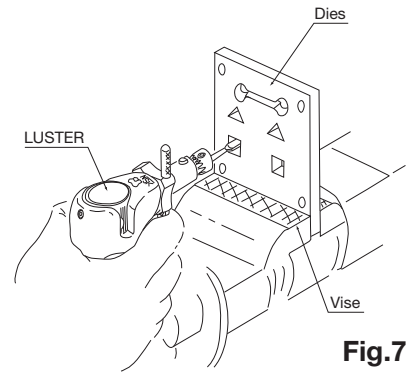

Fig.7
1. Finishing the complicated shapes and sizes. (Fig.7)